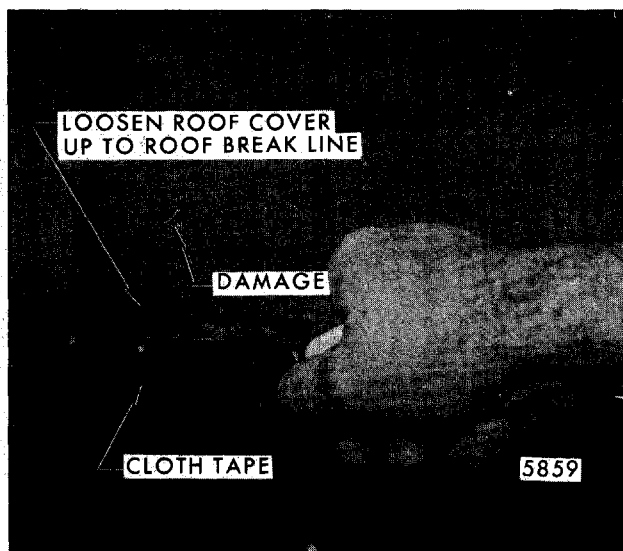

Fig. 8-57-Loosening Edge of Roof Cover
3. Using pliers or similar tool, carefully loosen edge of roof cover up to roof break line (Fig. 8-57).